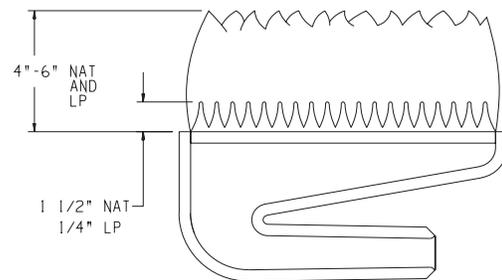

Figure 4
4. The wall in which the furnace is recessed has (0) zero clearance to the furnace sides and top.
8. Floor and rear wall clearance is (0) zero inches.
9. Clearance of 18 inches is required to sidewall or combustible material when flush mounted SOR-1, side outlet register is used. See Figure 4.
The correct flame will be a short blue inner flame with a much larger light blue outer flame. The main burner (Figure 4) shows the approximate height of each part of the flame for each gas. The burner does not have a primary air adjustment. The flame will be correct if the factory-set pressure and orifice opening are used. After the furnace has been operating, the burner ports may be blocked by foreign matter carried in by combustion air. Therefore, cleaning of the burner may be needed for proper flame.